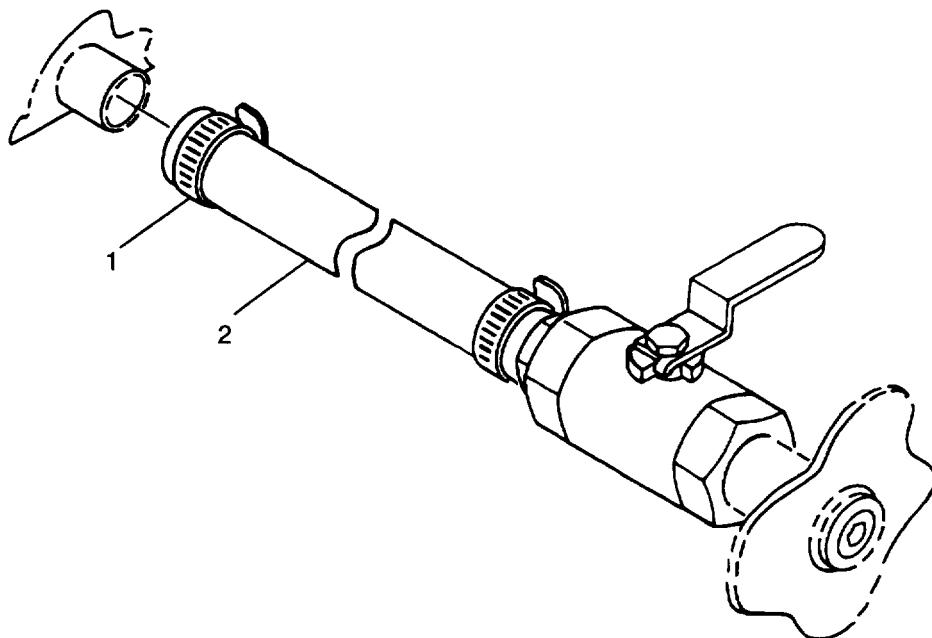
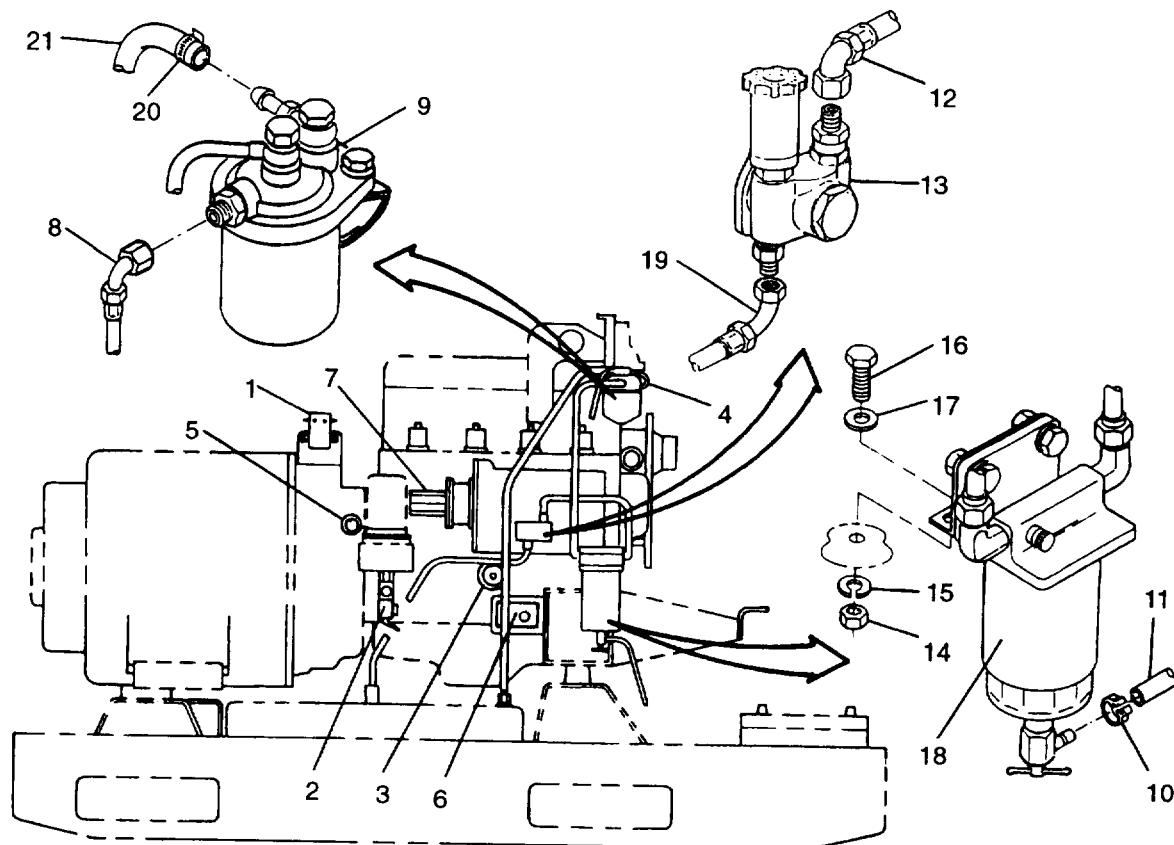
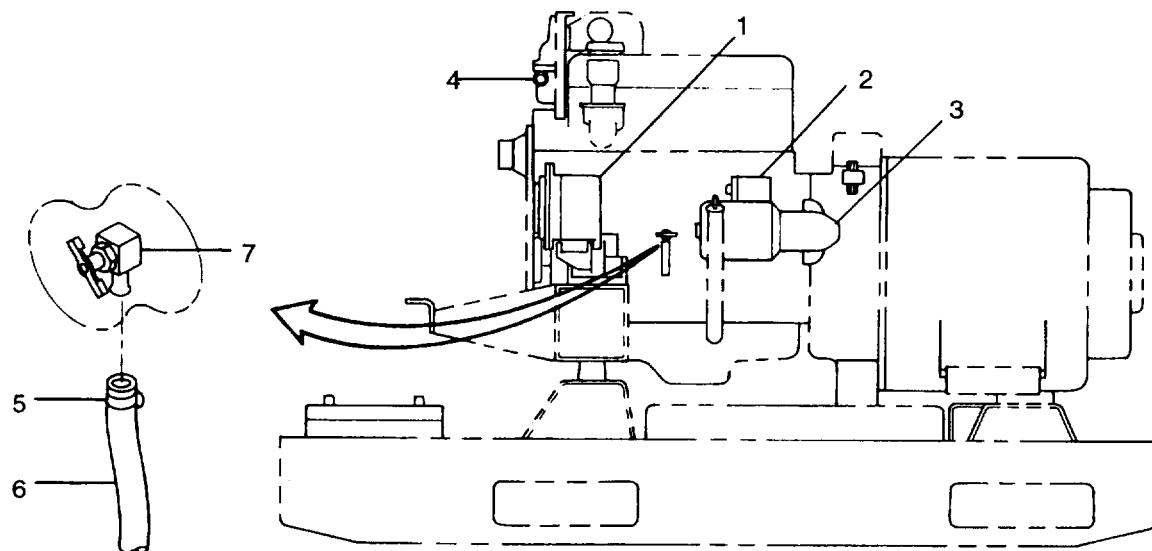
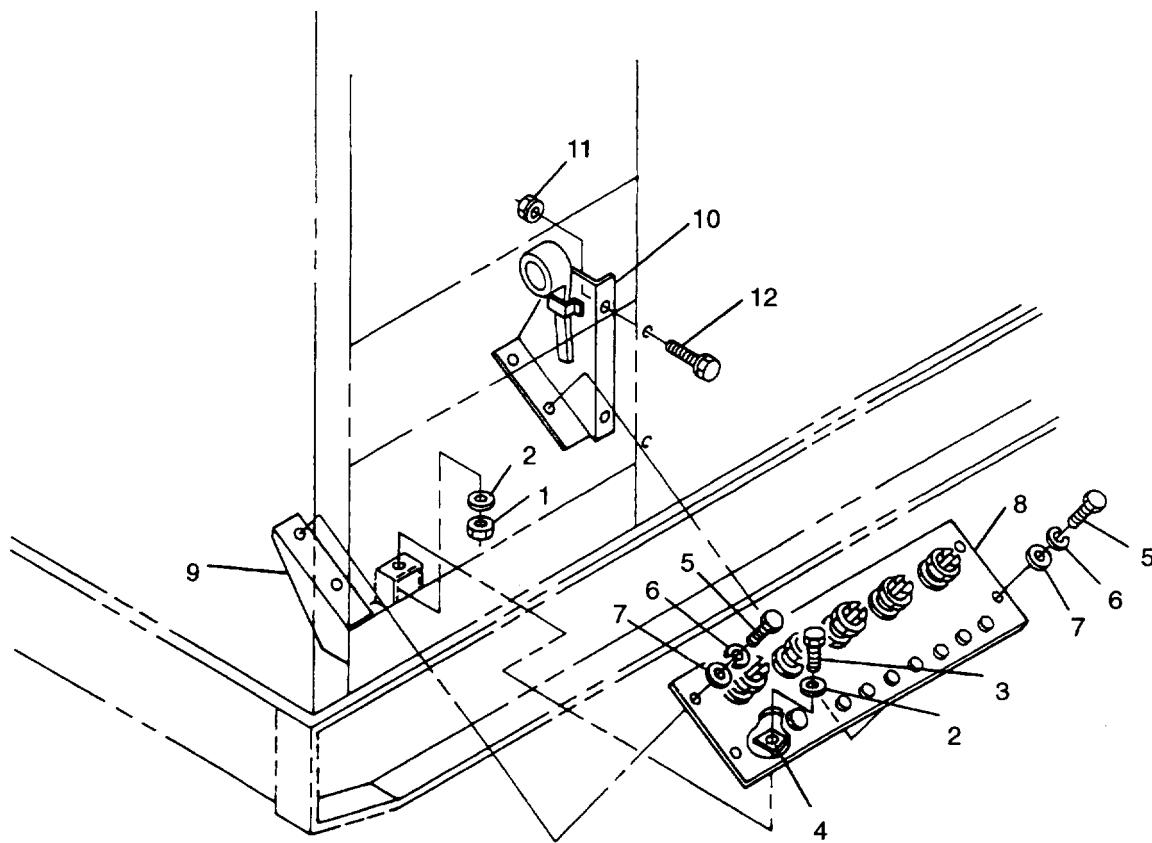

FIGURE 3-12. Oil Drain Line
FIGURE 3-13. Right Side Engine Components
FIGURE 3-14. Left Side Engine Components
FIGURE 3-15. Load Output Terminal Board
- aj. Loosen clamp (1, FIGURE 3-12) and disconnect oil drain hose (2) from engine oil pan.
- ak. On right side of engine, tag and disconnect electrical leads from glow plug contactor (1, FIGURE 3-13), low oil pressure switch (2), oil pressure sender (3), coolant temperature sender (4), magnetic pickup (5), DEAD CRANK switch (6), and fuel injection pump governor actuator (7).
- al. Disconnect fuel line (8) from engine fuel filter (9). Cap openings.
- am. Remove clamp (10) and disconnect hose (11) from fuel filter/water separator assembly (18). Cap openings.
- an. Disconnect fuel line (12) from fuel transfer pump (13). Cap openings.
- ao. Remove nuts (14), lockwashers (15), bolts (16), washers (17), and fuel filter/water separator assembly(18) from engine.
- ap. Disconnect fuel line (19) from fuel transfer pump (13). Cap openings.
- aq. Loosen clamp (20) and remove fuel return line (21) from engine fuel filter (9). Cap openings.
- ar. On left side of engine, tag and disconnect electrical leads from battery charging alternator (1, FIGURE 3-14), starter solenoid (2), starter motor (3), and coolant high temperature switch (4). Move engine electrical harness to rear of generator set and clear of engine.
- as. Loosen clamp (5) and disconnect coolant drain hose (6) from engine block coolant drain valve (7).
- at. Remove nut (1, FIGURE 3-15), lockwashers (2), and bolt (3) securing ground strap (4) to skid base.
- h. Install bolts (42) and lockwashers (43), tightening bolts (42) slowly to ensure even and proper seating of generator housing lip to flywheel housing. Torque bolts (42) to 31 ft-lbs (42 Nm).
- i. Secure engine support bracket (5) to skid base with bolts (4), snubbing washers (3), washers (2), and nuts(1). Torque bolts (4) to 75ft-lbs(102 Nm).
- j. Align scribe mark on generator drive disc and engine flywheel, and install bolts (40) and lockwashers (41) securing generator drive disc to engine flywheel. Torque bolts (40) to 35 ft-lbs (47 Nm).
- k. Install screen/cover (39) on generator case with screw (38) and washer (37).
- l. Loosen nuts (23) and (27), adjust bolts (25) to obtain 0.5 inch (1 2.7 mm) minimum clearance with skid base. Torque nuts (23) and (27) to 150 ft-lbs (204 Nm).
- m. Install support (10, FIGURE 3-15) on right side panel with bolts (12) and assembled nuts (11).
- n. Install load output terminal board assembly (8) on supports (9) and (10) with bolts (5), lockwashers (6), and washers (7).
- o. Secure ground strap (4) to skid base with bolt (3), lockwashers (2) and nut (1).
- p. Position engine electrical harness and connect electrical leads to battery charging alternator (1, FIGURE 3-14), starter solenoid (2), starter motor (3), and coolant high temperature switch (4) on left side of engine. Remove tags.
- q. Connect coolant drain hose (6) at engine block drain valve (7) and tighten clamp (5).
- r. Remove caps and connect fuel line (19, FIGURE 3-13) to fuel transfer pump (13).
- s. Remove caps, connect fuel return line (21) and tighten clamp (20) at engine fuel filter (9).
- t. Install fuel filter/water separatorassembly(18) on engine with bolts (16), washers (17), lockwashers (15), and nuts (14).
- u. Remove caps and connect fuel line(12) to fuel transfer pump (13).
- v. Remove caps, connect hose (11) and install clamp (10) at fuel filter/water separator assembly (18).
- w. Remove caps and connect fuel line (8) to engine fuel filter (9).
- x. Connect electrical leads to fuel injection pump governor actuator (7), DEAD CRANK switch (6), magnetic pickup (5), coolant temperature sender (4), oil pressure sender (3), low oil pressure switch (2), and glow plug contactor (1). Remove tags.
- y. Connect oil drain hose (2, FIGURE 3-12) to engine oil pan and tighten clamp(1).